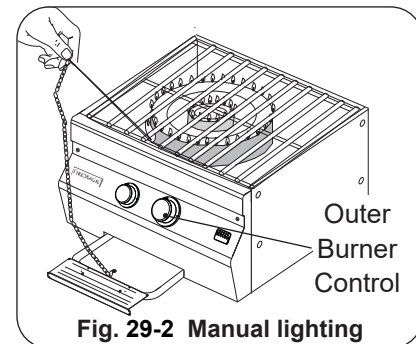

Fig. 29-2 Manual lighting
**WARNING:** **DO NOT** put hand directly above the burner when lighting but off to the side as shown (Fig. 29-2).
- 2a. Insert either a burning long-barrel butane lighter, a burning long-stem match, or a burning match held by a wire extension holder through the cooking grids to the desired burner to be lit (Fig. 29-2). **With the flame still next to the burner, depress the corresponding control knob (outer burner- right knob, inner burner- left knob), and while pressing turn it counterclockwise to the HI LIGHT position.** Remove the lighter or match when the burner lights, and release the control knob.
3. If the burner does not light within five (5) seconds of turning the control knob, **IMMEDIATELY** turn the burner control knob to the **OFF** position. **WAIT FIVE MINUTES** before repeating steps 2 and 3 of the **MANUAL LIGHTING INSTRUCTIONS**.